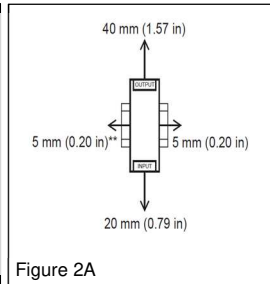

Figure 2A
- To ensure sufficient convection cooling, maintain a clearance of 40 mm [1.57 in] above, 20 mm [0.79 in] below, and a lateral distance of 5 mm [0.20 in] from other units. See Fig. 2A.